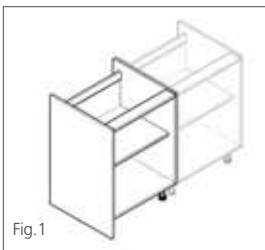

Fig.1
- For a replacement cabinet end to the left hand side of a unit add **GL**. For example BU56F **GL** (See Fig.1)